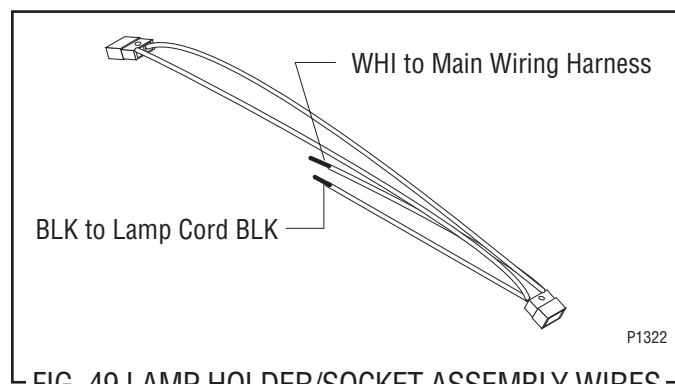

FIG. 49 LAMP HOLDER/SOCKET ASSEMBLY WIRES
14. Refer to Fig. 49 when reconnecting the wires.